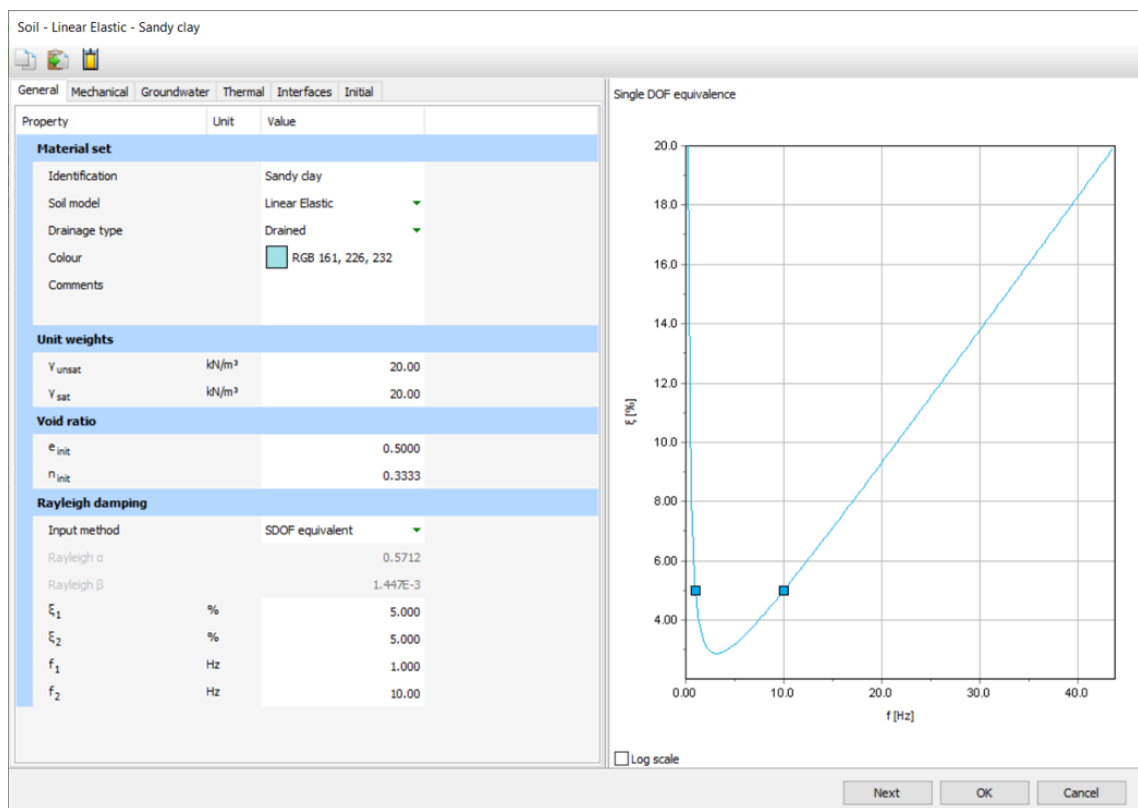

Figure 15–8: Input of Rayleigh damping
- 5 The values of α and β are automatically calculated by the program as shown in Figure 15–8 \(p. 240\).